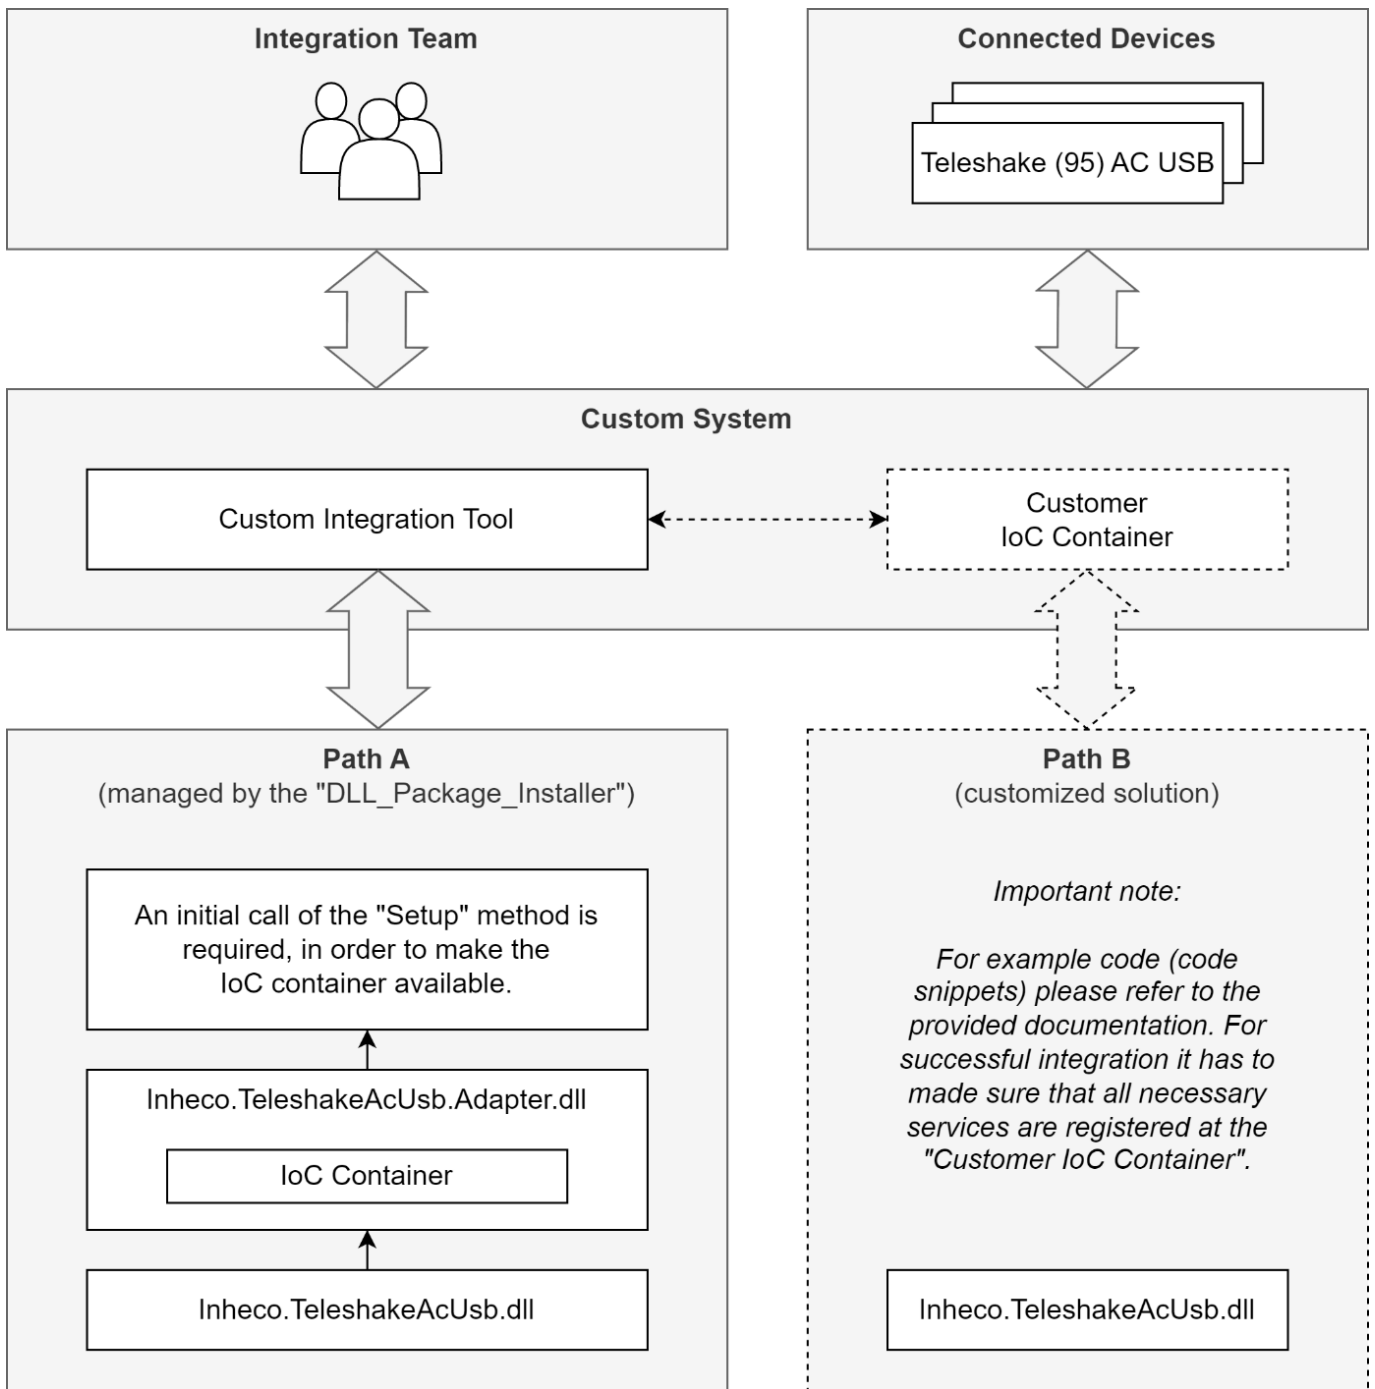

Figure 1: Abstracted block diagram to visualize two ways of possible device integration into a custom system.
There are two primary paths for integrating the Teleshake (95) AC USB device libraries into a custom solution or project (Figure 1).